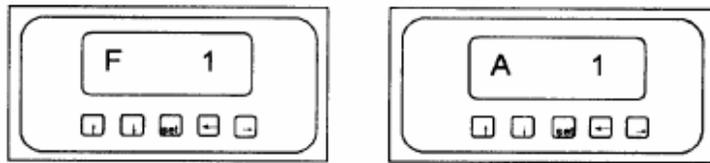

Fig. 5
4.1.1 The four keys on keyboard used as direction browser and accept current selection. They are shown at Fig. 5